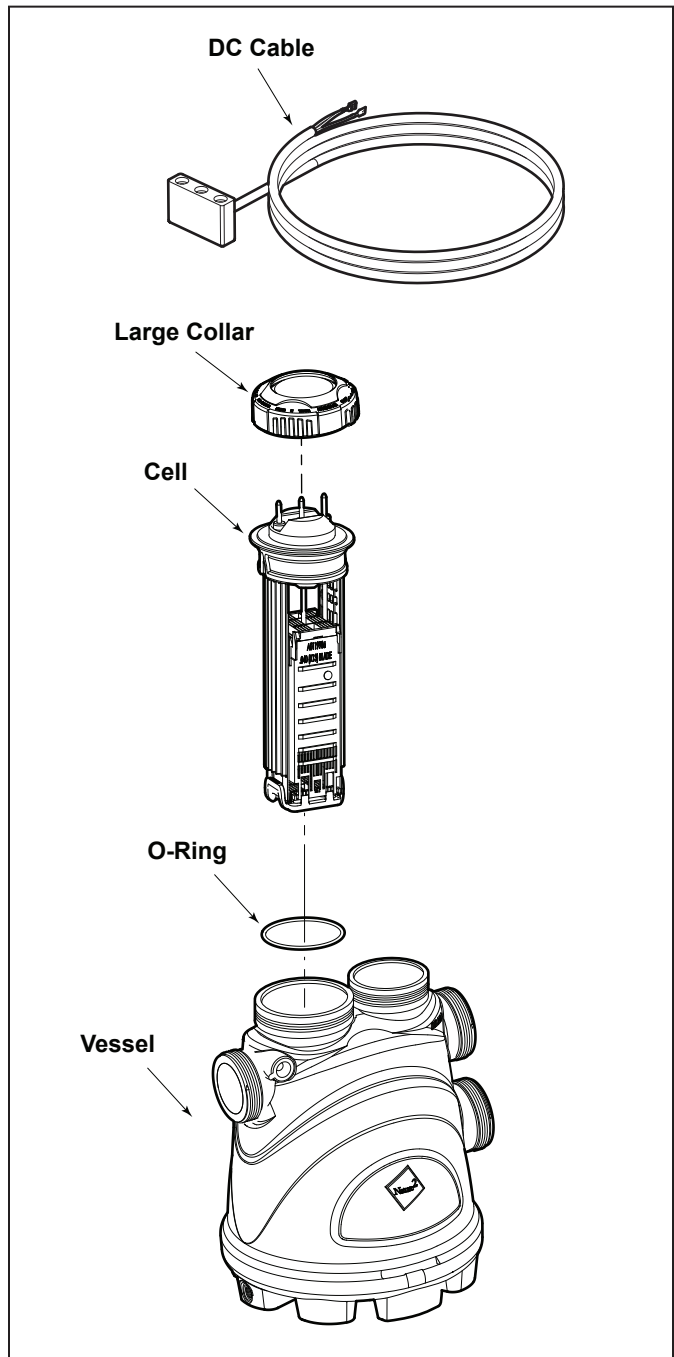

Figure 1. Installation of the Electrolytic Cell Assembly
1. Unplug the DC cord from electrolytic cell. See Figure 1.
2. Run the pool pump and filter for five (5) minutes. After this time turn off the pool pump.
4. Unplug the DC cable from the electrolytic cell. See Figure 1.